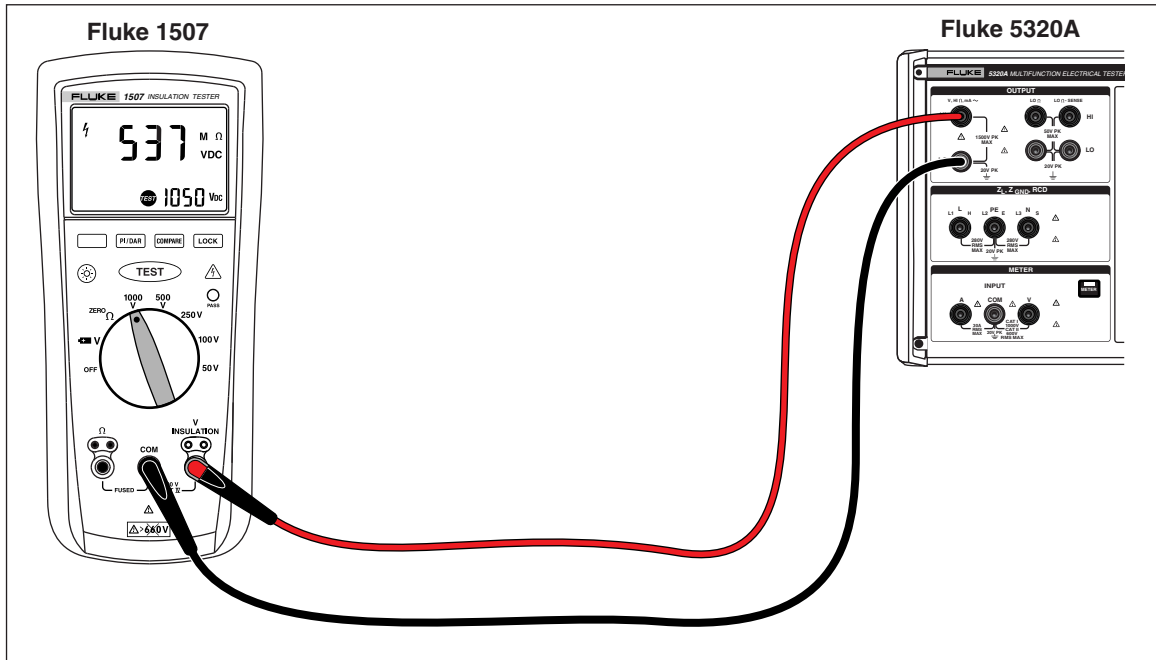

Figure 7-4. Calibrating Insulation Resistance of a Handheld Insulation Tester
The Calibrator's high resistance source function is designed for calibrating insulation resistance functions on megohm meters, installation testers, appliance testers and electrical safety analyzers. The high resistance function can also be used for calibrating ohmmeters in a specified resistance range. Figures 7-4 through 7-6 show the connections required for three different UUTs for an insulation resistance calibration procedure.
2. Using Figures 7-4, 7-5, or 7-6, connect the UUT to the Calibrator's **HI Ω HI** and **LO** output terminals.